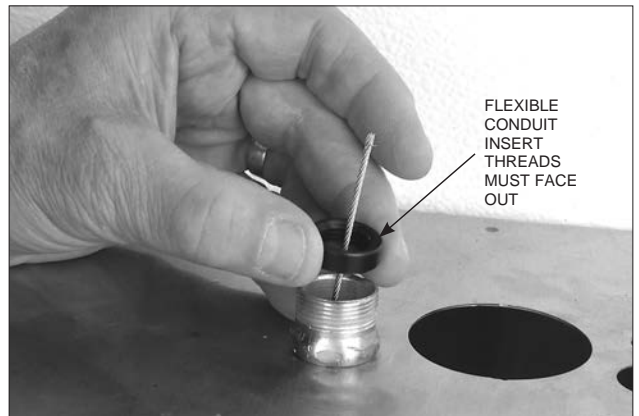

FIGURE 5-55
4. Thread the stainless steel wire rope through the EMT conduit connector and flexible conduit insert. Make certain thread in flexible conduit insert is facing out toward end of connector. See Figure 5-55.